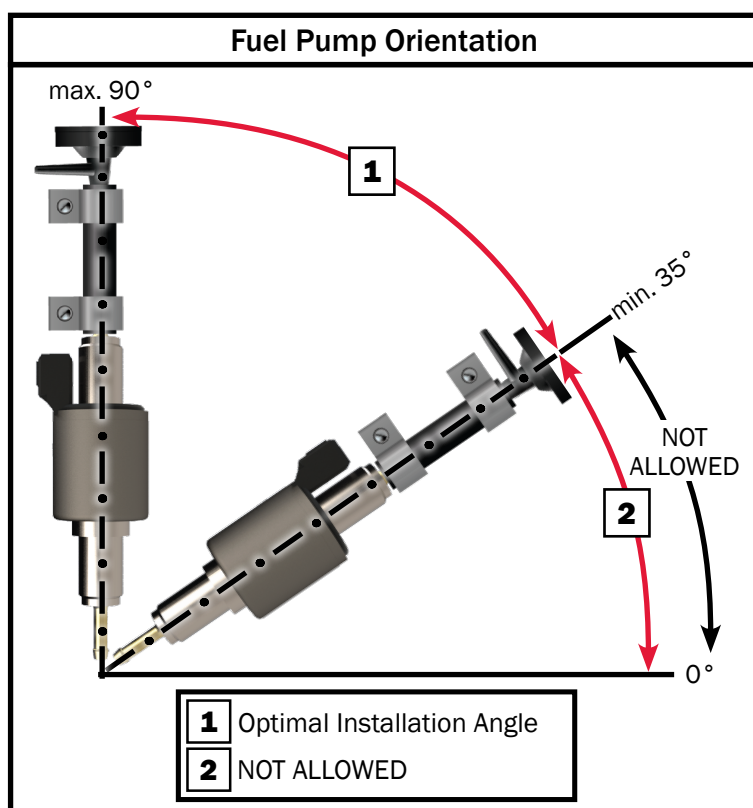

Figure 92
- The outlet of the fuel pump is required to be installed upwards. The angle should be between 35°-90°. See Figure 92 for fuel pump orientation.